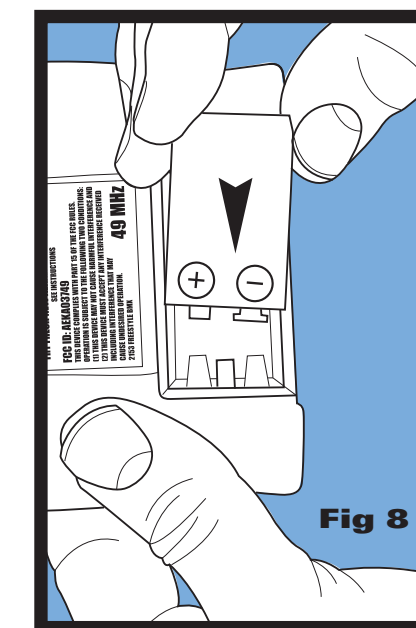

Fig 8
2. Insert a fresh, new 9-VOLT ALKALINE BATTERY with the polarity (+/-) as shown on the bottom of battery compartment. (Fig. 8)